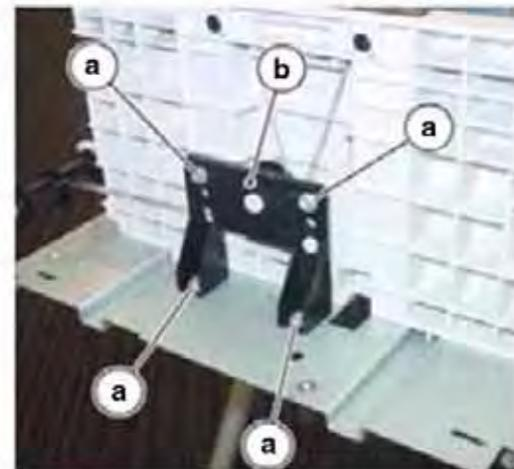

Figure 5 Guide Removal
7. Remove the Guide (Figure 5):
- a. Remove the Screws (4).